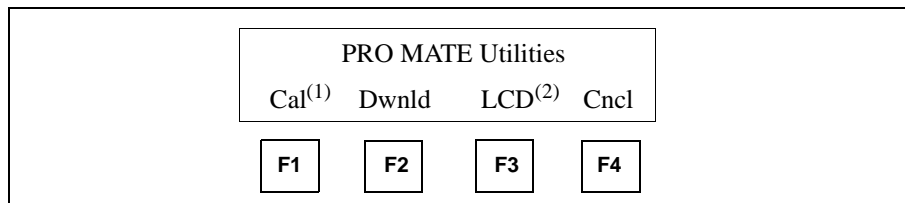

Figure 9.7: Utilities Menu
PRO MATE II includes various utilities, accessible through the Utilities menu (Figure 9.7). Not all utilities are available for all models. Calibration is only available for PRO MATE (1), and LCD contrast adjust is only available for PRO MATE II (2).